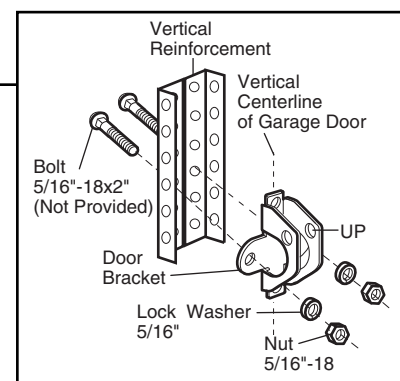

Figure 2B
- Alternately, use two 5/16" bolts, lock washers and nuts (not provided) (Figure 2B).